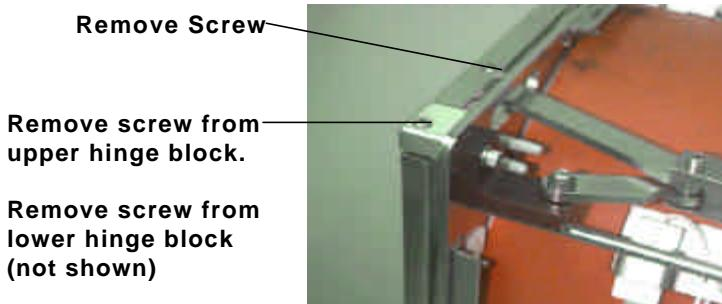

Figure 4-12. Removing the door assembly.
8. Remove the door assembly (remove 3 shoulder screws). See Figure 4-12.